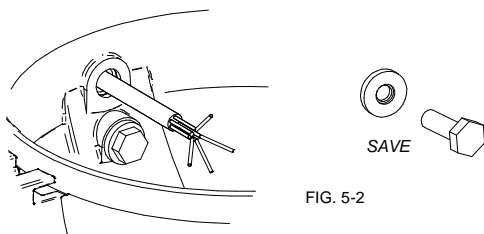

FIG. 5-2
2. In the bottom section, remove and SAVE the 1/4-20 x 3/4" screw and washer. (FIG. 5-2)